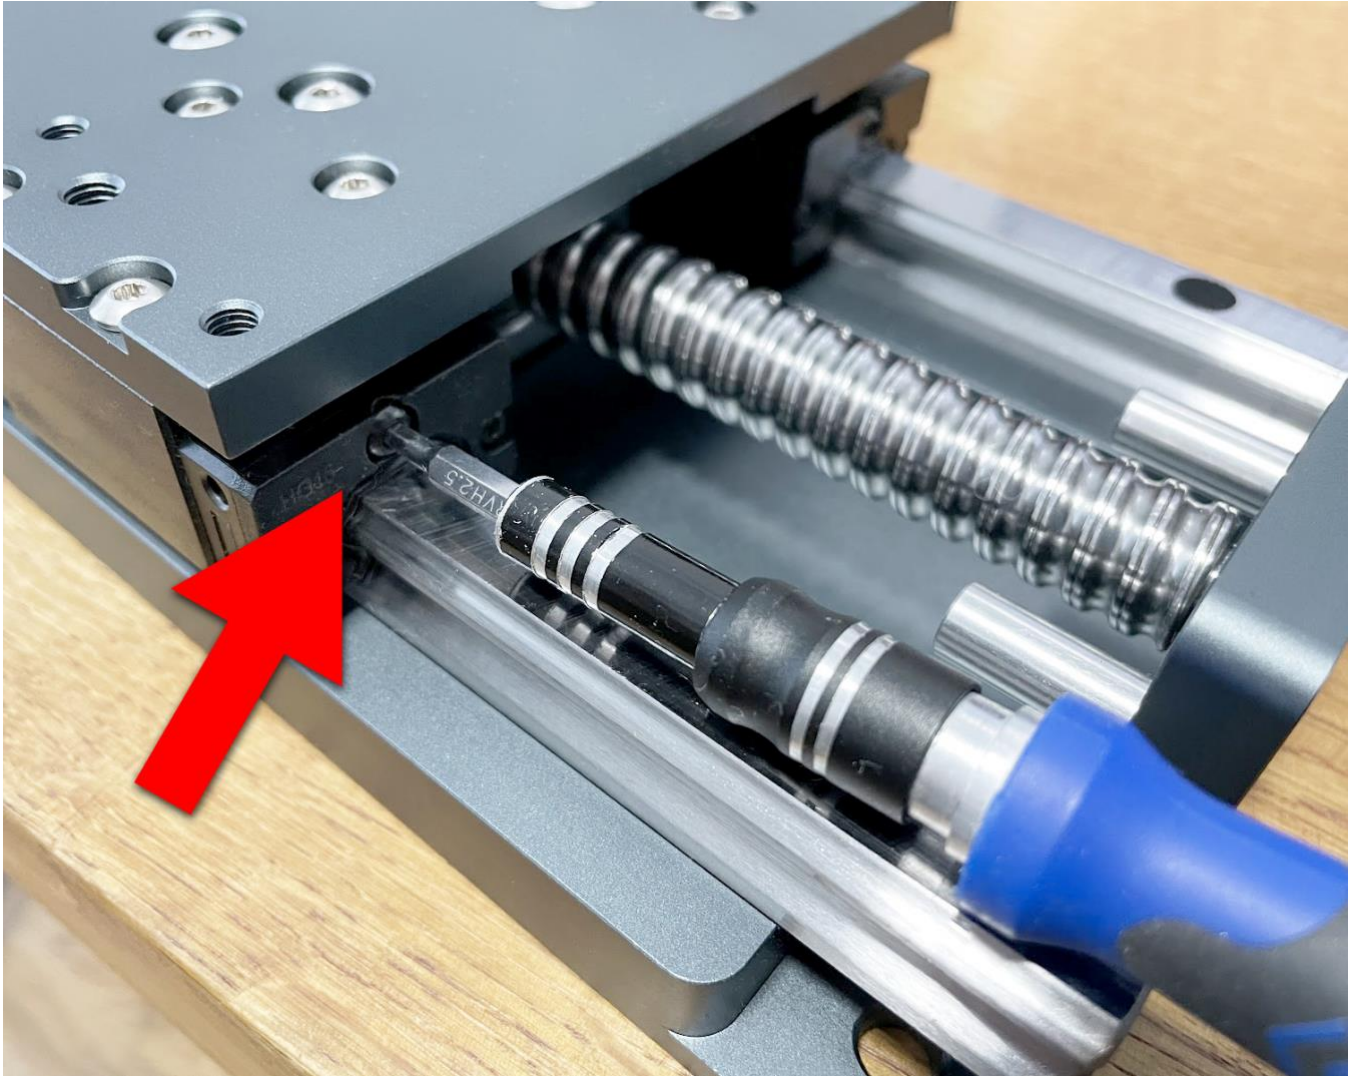

Figure 2
2. Remove the small M4 grub screw in the center of each linear guide. *See Fig. 2.*